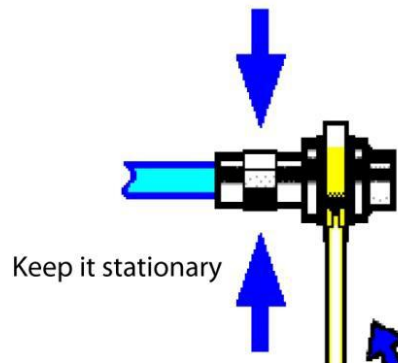

Fig. 3.6 Diagram of wrench operation
**Step 3.** as shown in Fig. 3.6, complete the final connection by tightening with the torque wrench. Note that the torque wrench must not be beyond the initial break point. Use the auxiliary wrench to prevent the connectors from rotation.